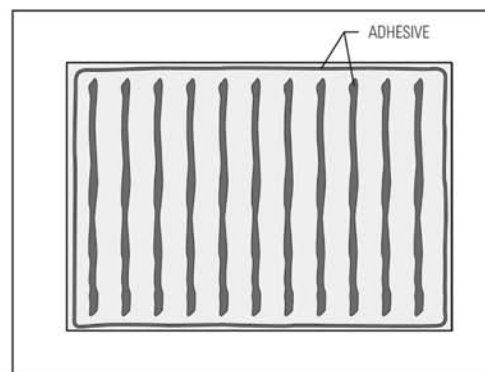

fig.7
4. Build a seat support from 2"x 4"s, that is 19 1/2"h x 12"d. Attach 1/2" plywood to the front of the seat structure, stopping it 1" above the waterguard barrier on the receptor. See figure 7.